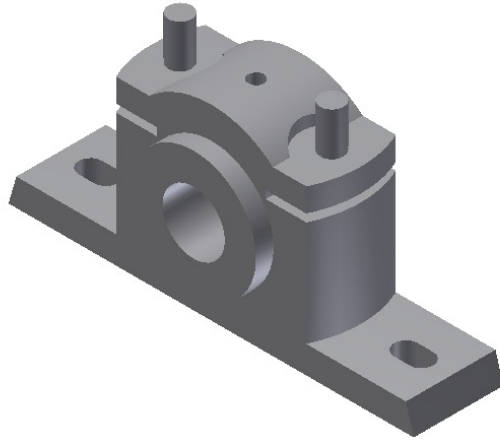

Figure 9-90 The assembly after the Bolts are assembled
11. Choose the **Home** button in the ViewCube. The home view of the assembly is enabled. The assembly after the Bolts are constrained is shown in Figure 9-90.